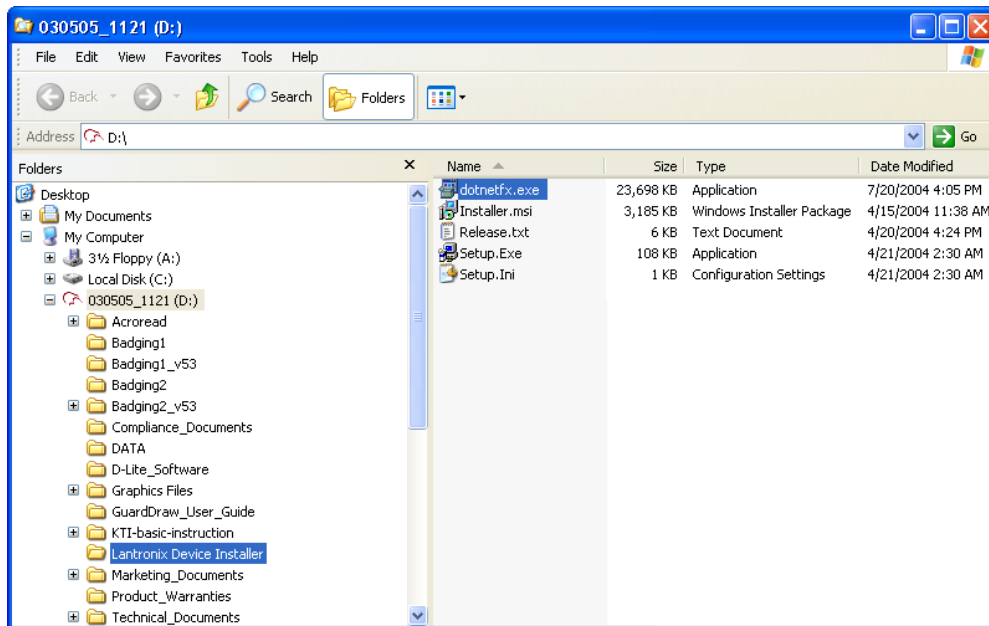

Figure 5: Windows Explorer
2. Click on the **Explore the CD-ROM** link. Windows Explorer opens and displays the CD-ROM contents (see Figure 5 on page 8).